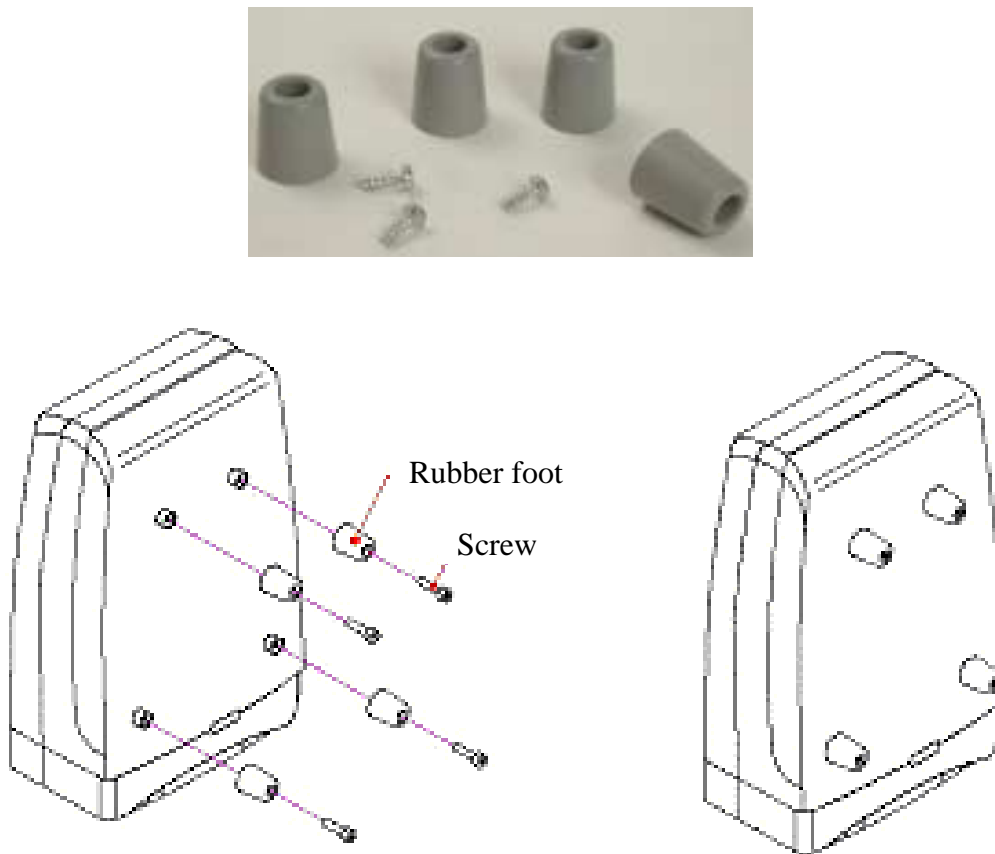

Figure 10-4: IDR horizontal desk mounting using supplied rubber pads and tapping screws
- Secure the rubber pads to the posts provided on the rear of the IDR using four self-tapping screws. See Figure 10-4.